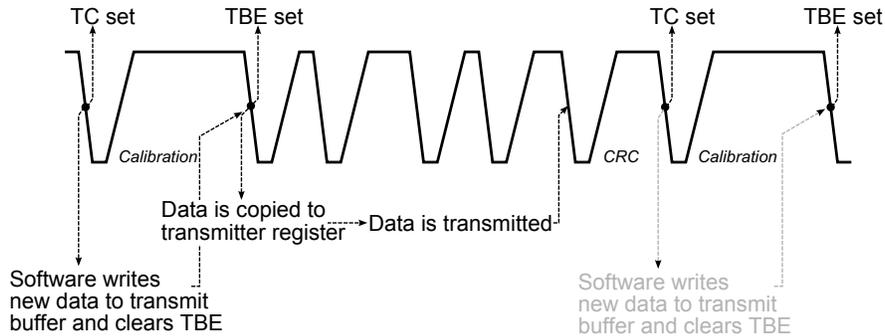

Figure 21-4. Transmission Complete driven SENT transfer without Pause Pulse
The software uses the Transmission Complete interrupt (TC) to prepare new data for the next transmission. An example for this case is provided in Figure 21-4 below.